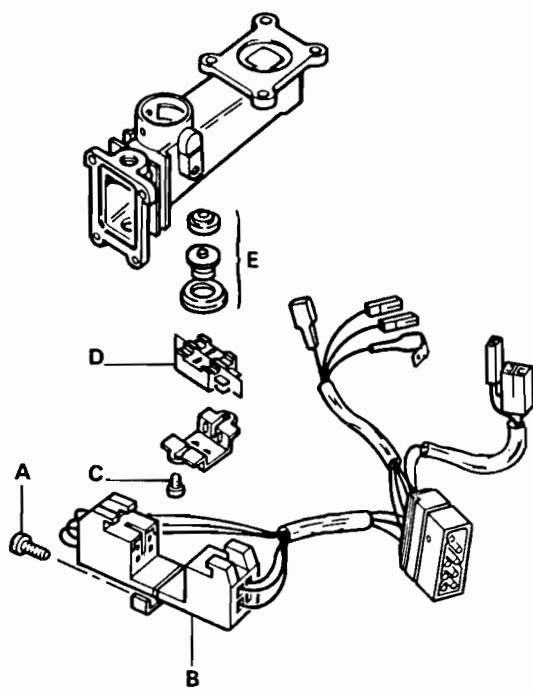

Fig. 18
**Section 9 :To replace water valve micro-switches (Fig. 18).**